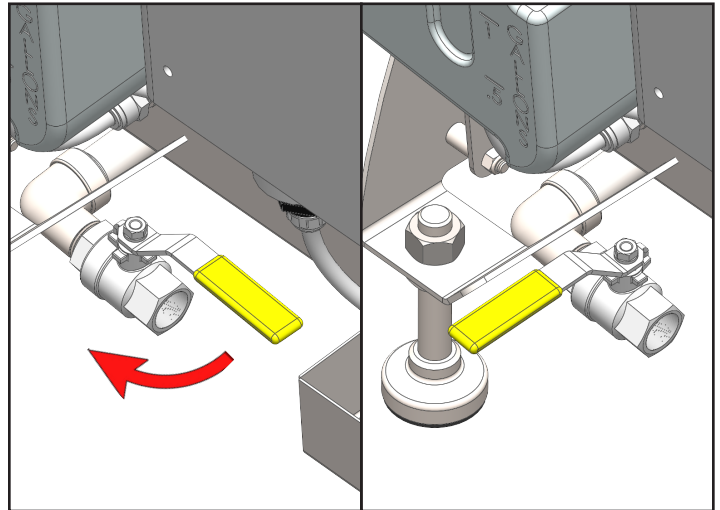

Fig. 8.1: Drain valve open (left) to close (right)
1. Make sure the drain valve is closed [Figure 8.1]